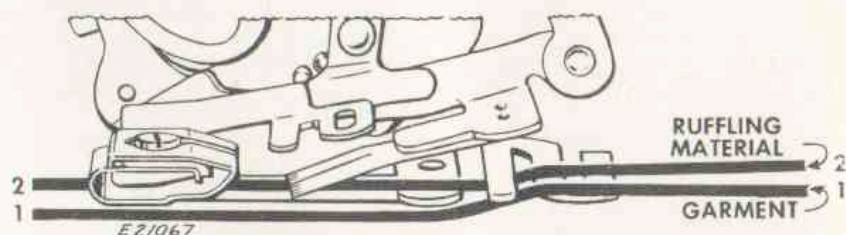

Fig. 58. Correct Positions for Materials
1. Insert material to be ruffled between two blue blades and under separator guide (Line 2, Fig. 58).
2. Place material to which ruffle is to be attached under separator blade and under separator guide (Line 1, Fig. 58).